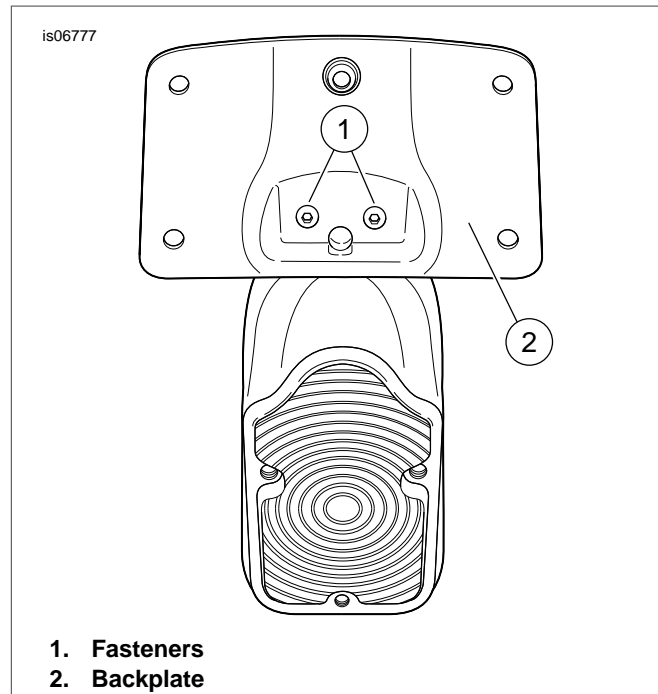

Figure 4. Backplate
- See Figure 4. Secure the backplate to the tail lamp assembly using the #10-24 button head fasteners, #10 lockwasher and acorn nuts.